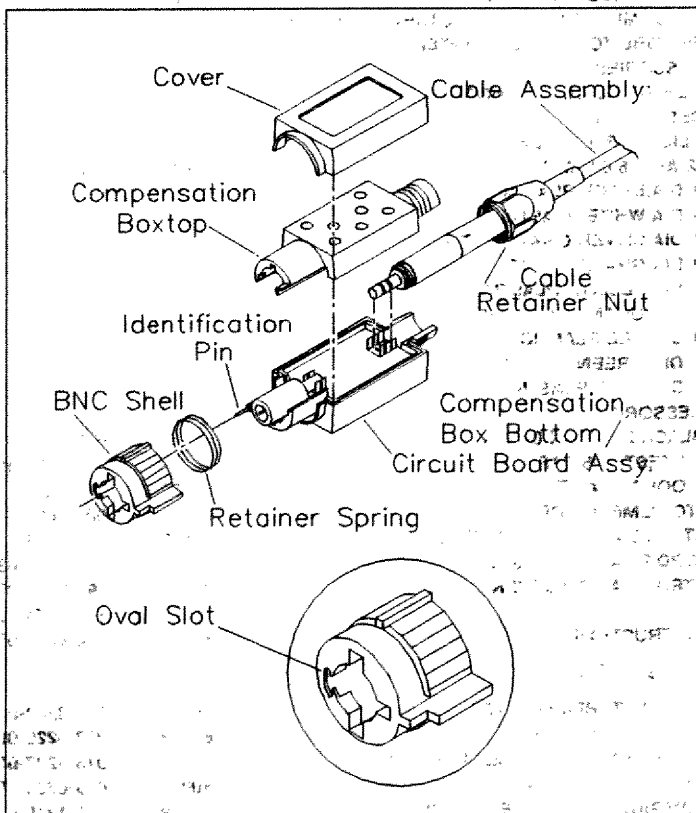

Figure 1. Compensation Box/Cable Assembly Replacement.
Use the following procedure to disassemble and replace the compensation box or the cable assembly (refer to Figure 1 for parts nomenclature).
- Replace the retainer spring. Press the new BNC shell onto the compensation box making sure the identification pin goes through the oval slot in the shell. (See Figure 1.)